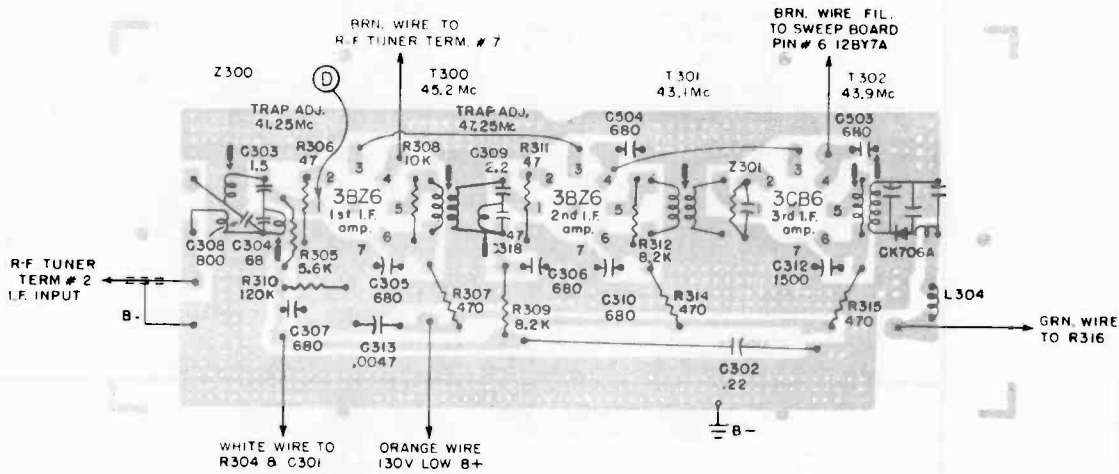

Fig. 14 Bottom View of IF Printed Board Showing Top Components Symbolically
2. Connect the RF generator, capable of providing frequencies ranging from 40 to 50 mc. (unmodulated) to point "D" as shown on Fig. 17 and Fig. 14. For suggested RF generator coupling and termination see Fig. 3.